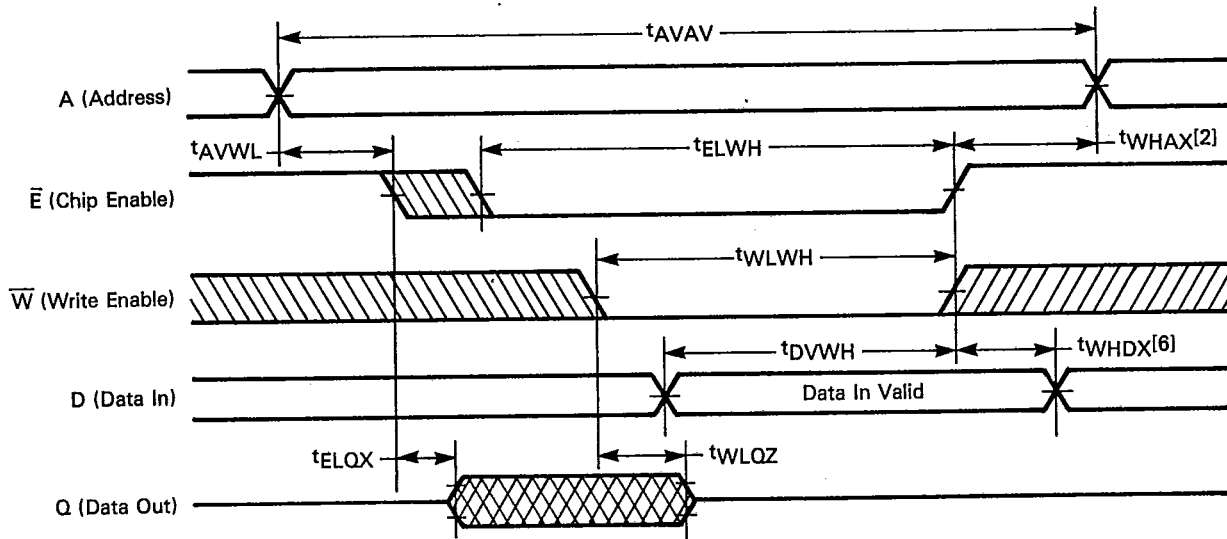

FIGURE 1 — OUTPUT LOAD
Output Load ..... See Figure 1
2. Transition is measured ±200 mV from the steady state output voltage with the output loading specified in Figure 1.